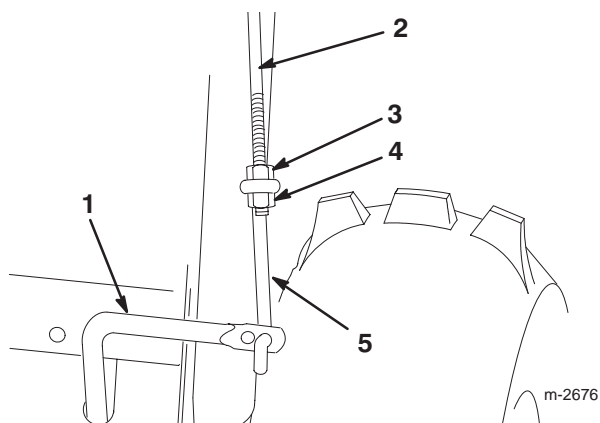

Figure 9
1. Thread a flange nut (flange side down) onto the upper control rod located on the right side of the handle assembly (Fig. 9).
2. Install the lower link through the outer hole in the lower control rod as shown in Figure 9.
3. Insert the upper control rod through the loop in the lower link (Fig. 9).
4. Thread a flange locknut (flange side up) onto the bottom of the upper control rod below the loop in the lower link (Fig. 9).
7. Adjust the flange nut and the flange locknut (Fig. 9), if necessary, to obtain the proper dimension between the top of the handgrip and the bottom of the auger/impeller drive control lever.